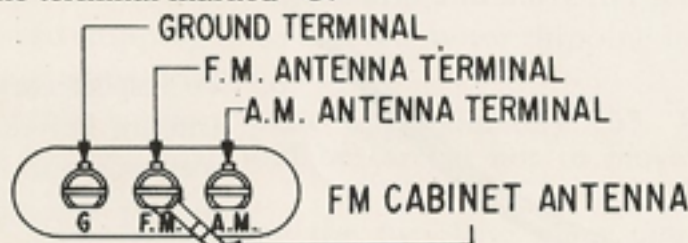

Figure 3—Antenna Terminals
*In locations where electrical interference is experienced, particularly close to areas with heavy automobile traffic, or in locations where reception with the built-in antenna is marred with "noise" or distortion due to weak signals, it is very important that an external FM antenna be used. Also, in areas of marginal reception, a better antenna may be needed for stereophonic FM reception than for conventional monophonic FM.* To connect the lead-in from the external FM antenna to the receiver, first remove the cabinet antenna wire from the "F" terminal (See Fig. 3). Connect one side of the external antenna lead-in to the "F" terminal and the other side to the terminal marked "G."